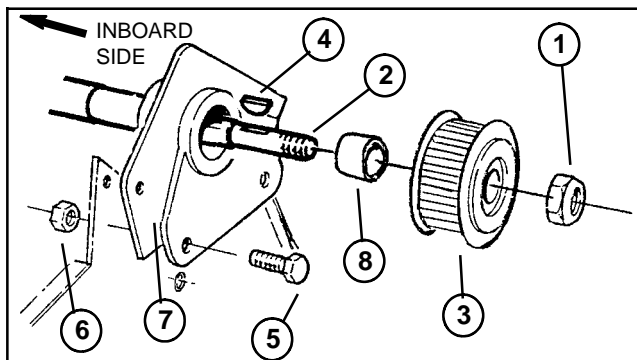

Figure 19
2. Remove nut from the differential axle. Remove pulley and woodruff key from the axle (Fig. 19).
3. Remove cap screw and lock nut from the housing and frame. Slide housing off of the differential axle (Fig. 19).
Installation (Fig. 19)